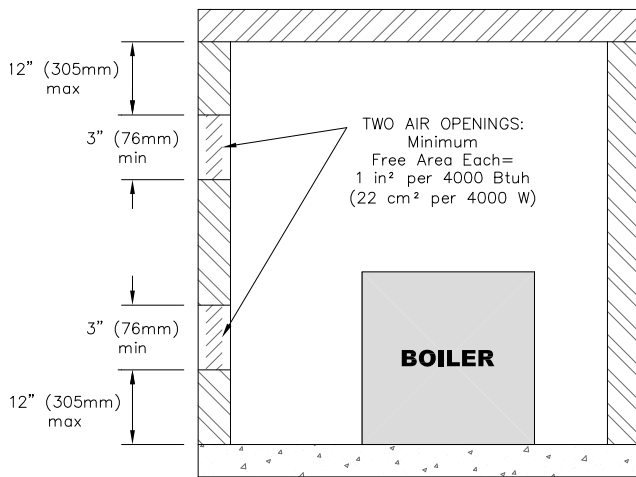
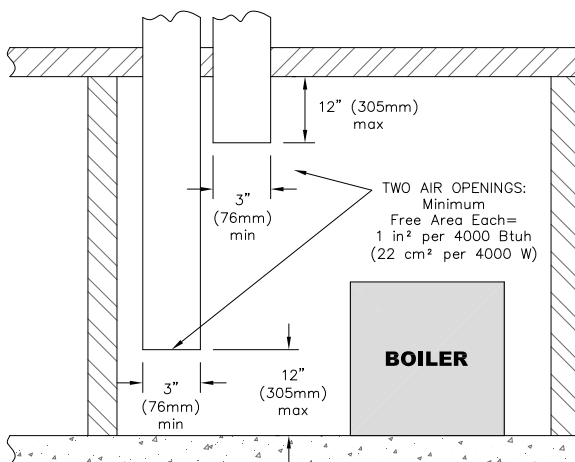

Figure 1.3: Air Openings - All Air Directly from Outdoors
Figure 1.4: Air Openings - All Air from Outdoors through Vertical Ducts
i. Where communicating directly or through vertical ducts with the outdoors each opening shall have a minimum free area of 1 in2 per 4000 Btu/hr (22 cm2 per 4000 W) of total input rating for all equipment in the space. See Figure 1.3 for openings directly communicating with the outdoors or Figure 1.4 for openings connected by ducts to the outdoors.